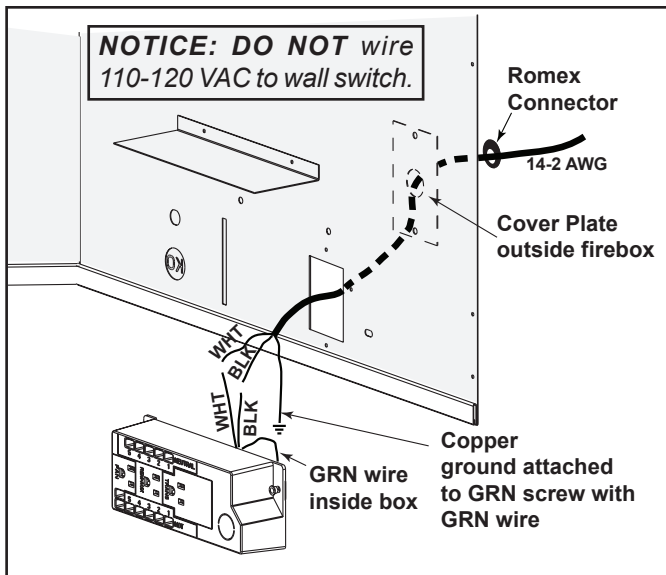

Figure 8.3 Junction Box Detail (Generic Model Shown)
- Pull the electrical wires from outside the appliance through the opening into the valve compartment and secure wires with a Romex connector. See Figure 8.3.